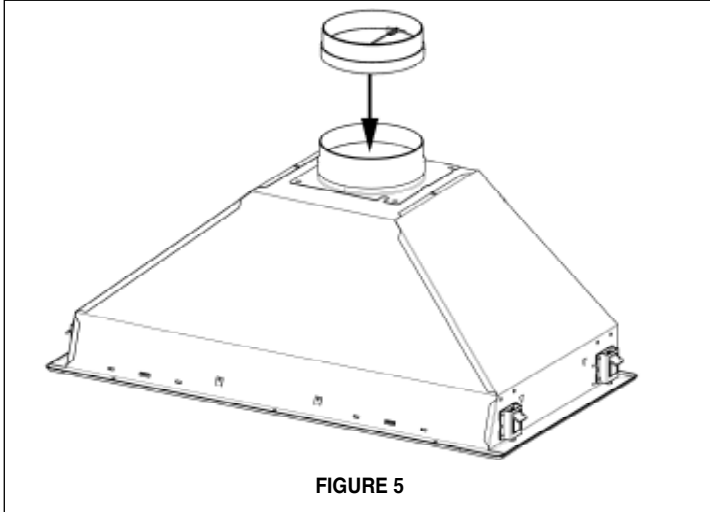

**FIGURE 4**
5. Make the cut-out opening where the rangehood will be installed (**FIGURE 4**).